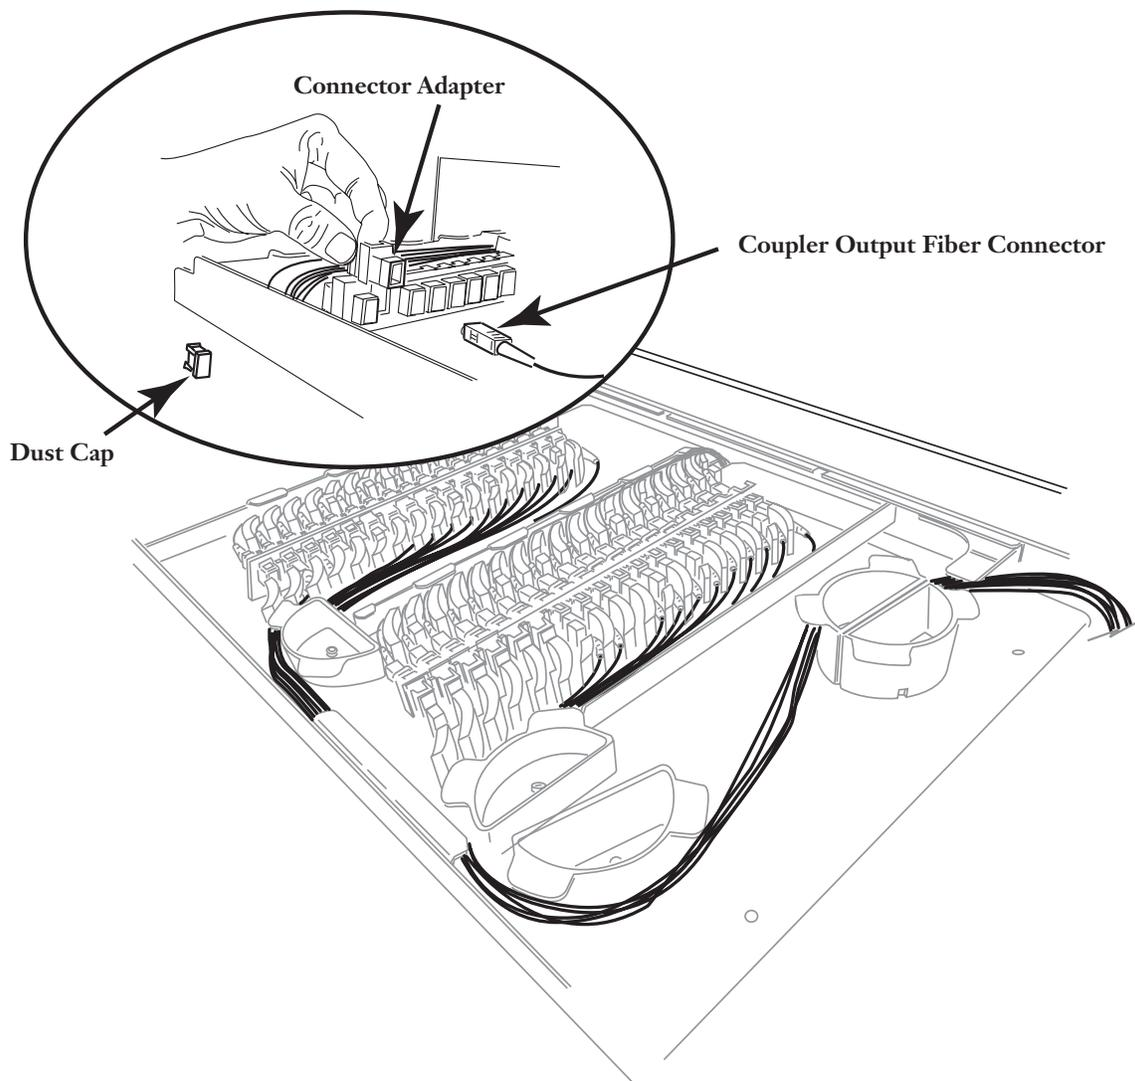

Figure 6 — Mate Connectors in Connector Adapters
- Step 4** Locate and lift up the specific connector adapter where the connector will be inserted (Figure 6).